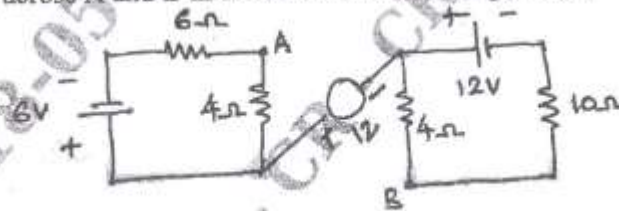

Fig.Q.1(b)
b. What is the voltage across A and B in the circuit shown in Fig.Q.1(b).